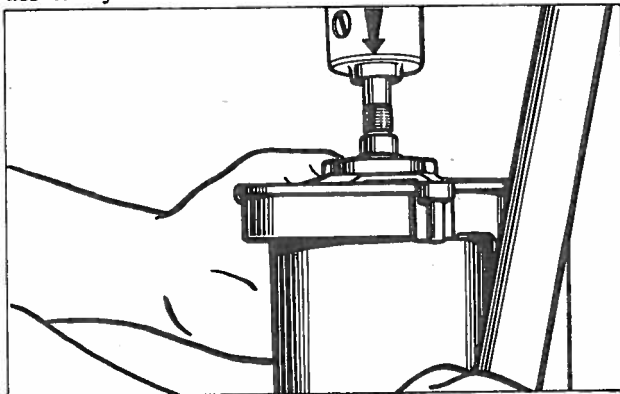

Fig. 50 Pressing rotor out of drive end frame assembly
4. Using a suitable support and arbor, press the rotor out of the drive end frame, holding the rotor securely Fig. 50